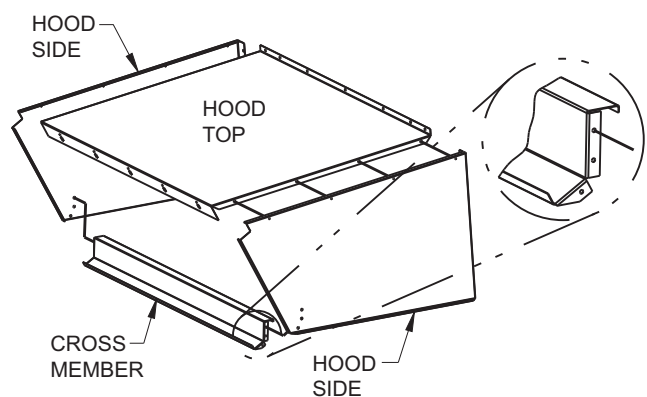

Fig. 30 — Economizer Hood Assembly
3. Assemble hood sides, top, and cross member with gasketed screws provided. See Fig. 30.